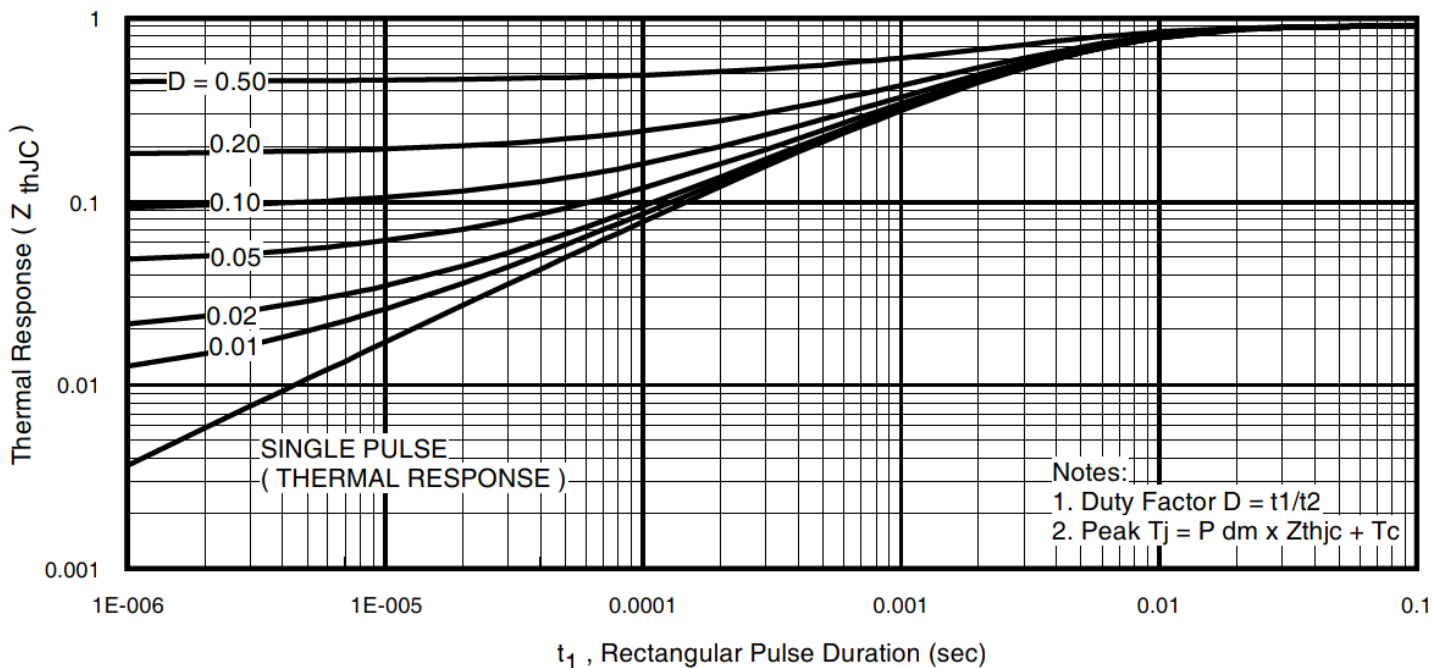
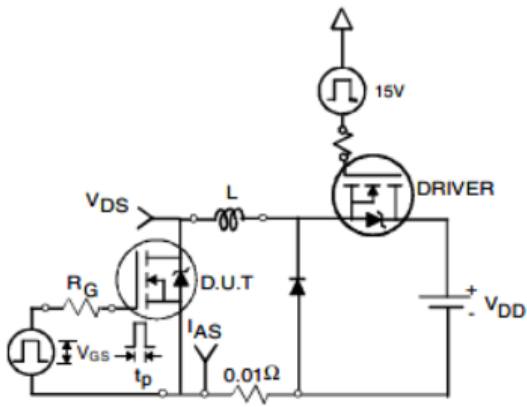

Fig 11. Maximum Effective Transient Thermal Impedance, Junction-to-Case
Fig. 12a. Unclamped Inductive Test Circuit
- ① Repetitive rating; pulse width limited by max. junction temperature. (See fig. 11).
- ② Limited by T_{Jmax} starting $T_J = 25^\circ\text{C}$, $L = 0.08mH$, $R_G = 25\Omega$, $I_{AS} = 66A$, $V_{GS} = 10V$. Part not recommended for use above this value.
- ③ Pulse width $\leq 1.0ms$; duty cycle $\leq 2\%$.
- ④ $C_{oss\ eff.}$ is a fixed capacitance that gives the same charging time as C_{oss} while V_{DS} is rising from 0 to 80% V_{DSS} .
- ⑤ Limited by T_{Jmax} , see Fig.12a, 12b, 15, 16 for typical repetitive avalanche performance.
- ⑥ This value determined from sample failure population. 100% tested to this value in production.
- ⑦ This is only applied to TO-220AB package.
- ⑧ This is applied to D² Pak, when mounted on 1" square PCB (FR-4 or G-10 Material). For recommended footprint and soldering techniques refer to application note# AN-994.